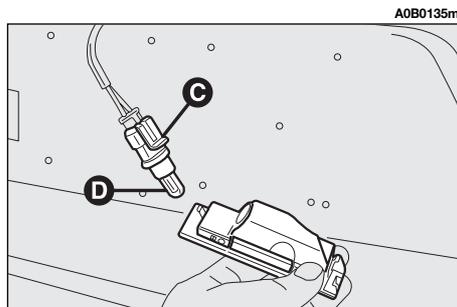

fig. 55
– Remove the bulb holder (**C-fig. 55**) turning clockwise and replace the bulb (**D-fig. 55**) which snaps on.
– Refit the bulb holder (**C-fig. 55**) turning clockwise.